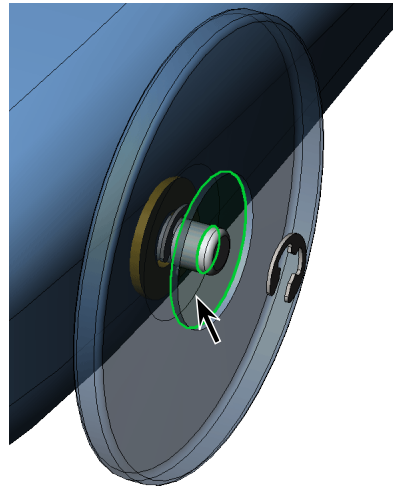

Fig. 20
Step 2. Click **bottom face of counter-bore in Front Wheel**, **Fig. 20**.